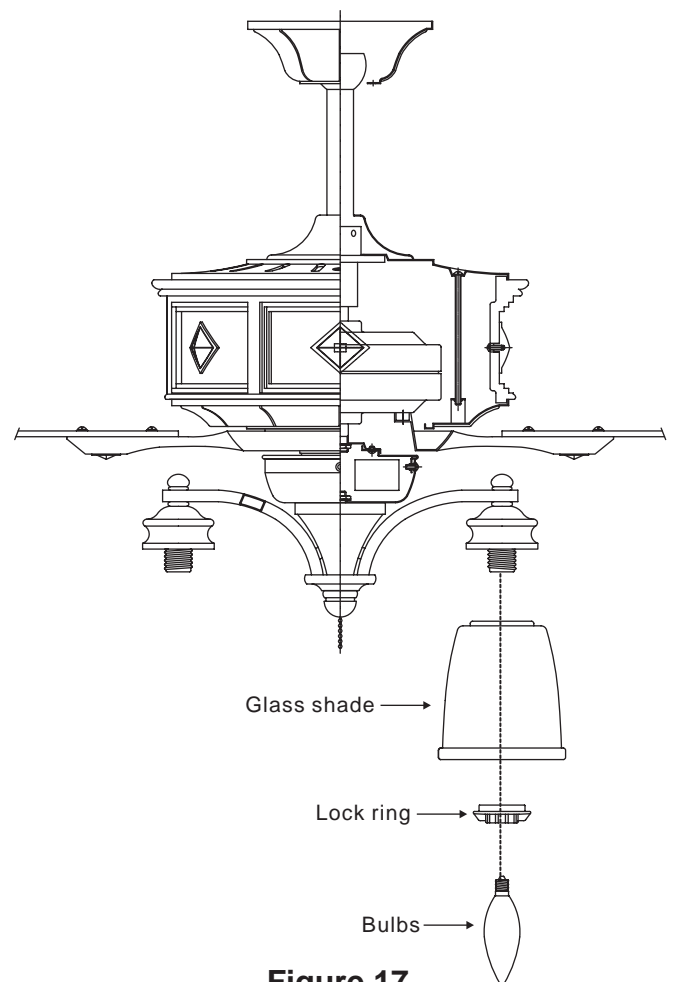

Figure 17
1. Remove the lock ring from the socket by turning the lock ring counter-clockwise Until it unlocks. Insert the glass into the glass holder and turn the lock ring clockwise to tighten the glass. Repeat for the remaining glass. (Fig. 17)
2. Install 4 x 60W candelabra bulbs (not included). (Fig. 17)